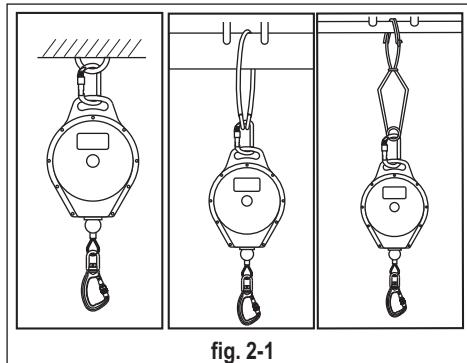

fig. 2-1
**Anchor device or anchor point** should always be positioned, and the work carried out in such a way as to minimise both the potential fall and potential fall distance. The structural anchor point should be placed above the user's position, should have stable structure and its shape shall not allow to self-acting disconnection. The minimal strength of the structural anchor point should be not less than 12kN. It is recommended to use certified and marked structural anchor or device, conform to EN795 standard. Connecting the fall arrester to a structural anchor point should be done by joining the arrester handle to a structure with the aid of the AZ017 connector or sling complying with EN362 or EN795 standards (fig.2-1).
The ENROLCABLE25 may be attached to a stable structural element of minimal strength not less 12kN. The device connection to the structural anchor should be done with the aid of a connector (ref. AZ017) or sling complying with EN362 or EN795 standards (fig.2-1). The ENROLCABLE25 may be attached to a tripod's head (suspended in vertical orientation) or installed on tripod's leg. [see UTILIZATION WITH A TRIPOD]